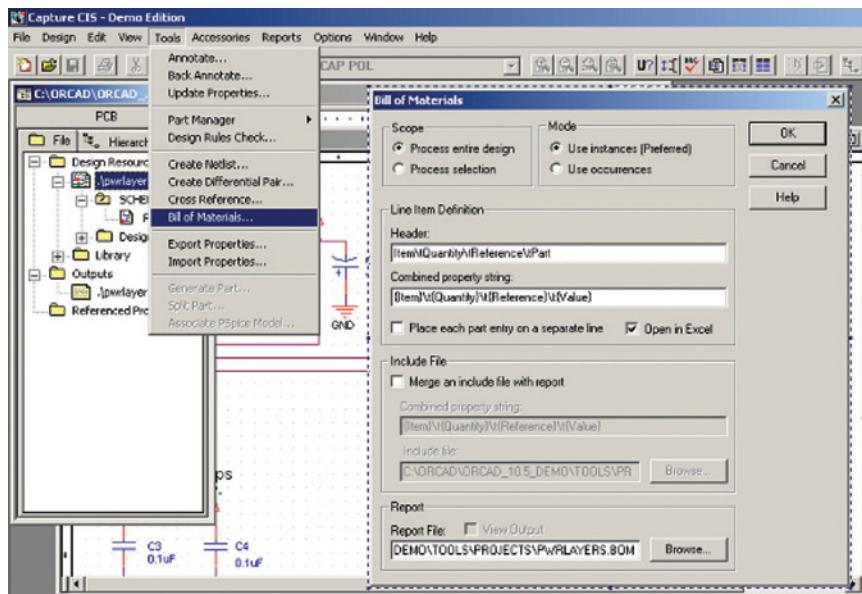

Figure 9-12 Generating a bill of materials to include PCB footprints.
**To generate the custom BOM** go to the Project Manager, select the **Design** icon, and then select **Bill of Materials...** from the **Tools** menu (see Fig. 9-12). At the **Bill of Materials** dialog box add the text “\tFootprint” in the text box labeled Header:, and add the text “\t{PCB Footprint}” in the text box labeled Combined property string:. Put a check mark in the **Open in Excel** box. You can specify the location and name of the BOM using the **Browse...** button at the bottom. Click **OK** when you have finished the setup. For additional information on using Excel with a BOM see Chap. 11.